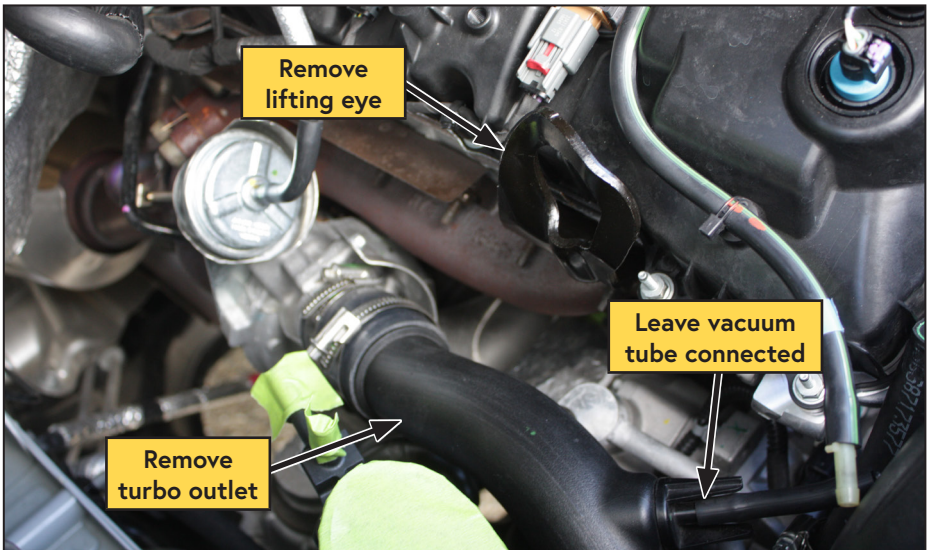

Figure 11 — Remove engine lifting eye and turbo outlet
- Remove the engine lifting eye and retain the fasteners (Figure 11).
- Remove the hose clamp on the passenger side turbocharger outlet tube (Figure 11).
- Remove the turbocharger outlet tube and place it out of the way on top of the engine. The small vacuum line attached to the turbocharger tube can be left connected (Figure 11).